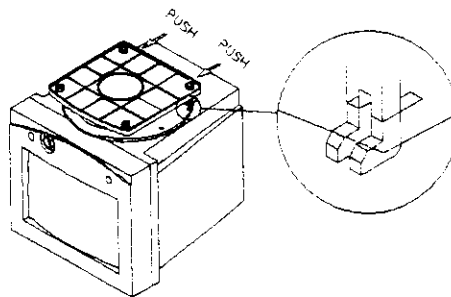

Figure 2 : Attaching the monitor to its base
3. Push this assembly in the direction of arrow (←) as indicated in Figure 2 to lock the hooks.